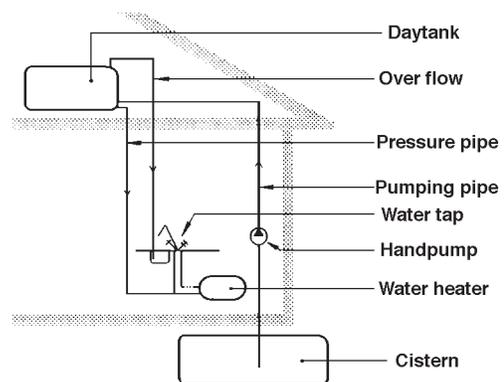

Figure 221 Schematic drawing for a gravity-fed pressure system with a cistern pump and a day tank.
- 221 In the case of seasonal use or installations where there is no electricity, the tanks should be placed so that gravity feed can be used to deliver the water. This can be accomplished by placing the cistern in sloping terrain, in the attic, or on a support under the eaves. The water can be pumped by hand from the cistern to a day tank in the attic or to another place higher than the outlet pump (Figure 221)